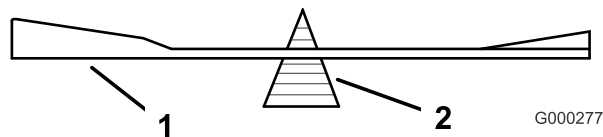
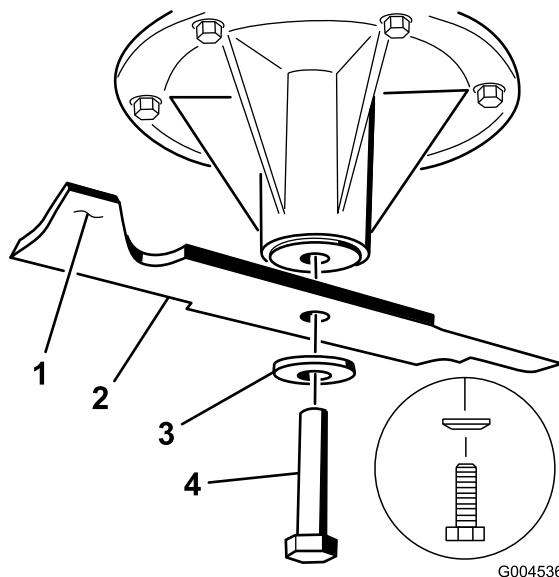

Figure 96
Figure 97
2. Check the balance of the blade by putting it on a blade balancer (Figure 96). If the blade stays in a horizontal position, the blade is balanced and can be used. If the blade is not balanced, file some metal off the end of the sail area only (Figure 97). Repeat this procedure until the blade is balanced.
1. Install the blade onto the spindle shaft (Figure 97).
2. Install the spring disk and blade bolt. The spring disk cone must be installed toward the bolt head (Figure 97). Torque the blade bolt to 85-110 ft-lb (115-150 N-m).